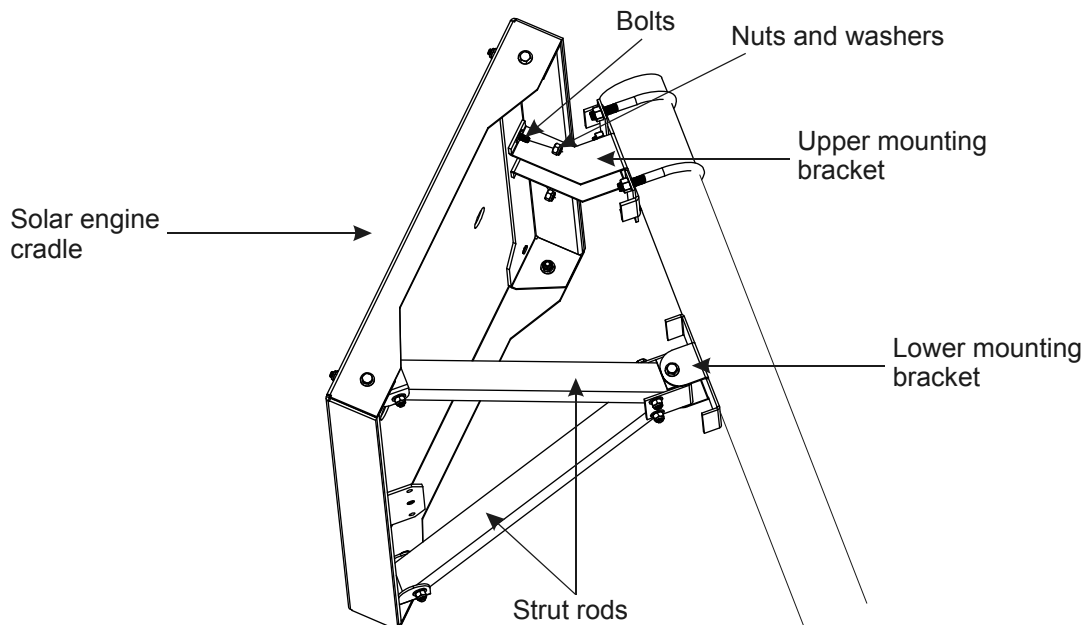

Figure 6-7: Underside of solar engine cradle with strut rods
4. Insert the bolts on the cradle into the holes in the upper bracket mounting; see Figure 6-7.
6. Swing the strut rods and lower mounting bracket down to contact the pole; see Figure 6-7. The strut rods are pre-attached to the solar engine cradle.